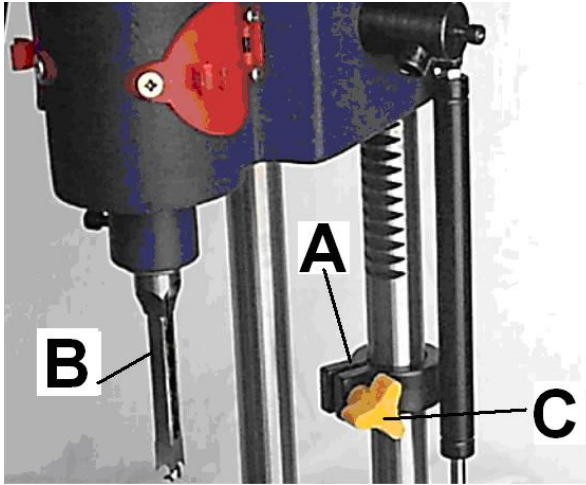

Fig. 5
A depth stop guide (A) Fig. 5, is provided to limit the depth of the chisel (B). To adjust the depth stop guide (A), loosen screw (C) and lower head until the chisel (B) is at the desired depth. Lower depth stop guide (A) until it is at the desired depth , tighten screw (C).